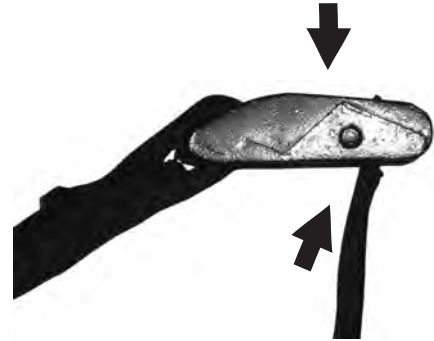

Fig. 2
3. Hook one end of the Ratchet Strap Assembly to the bracket on the Tree Support Brace. Wrap the Ratchet Strap around the back of the tree and hook the other side to the other bracket on the Tree Support Brace. Ratchet the strap as tightly as possible around the tree to remove any remaining slack. **(See Fig. 2 for installation) (See Ratchet Strap Instructions)**
2. Press down on latch and insert strap underneath teeth as shown in Fig. 2.